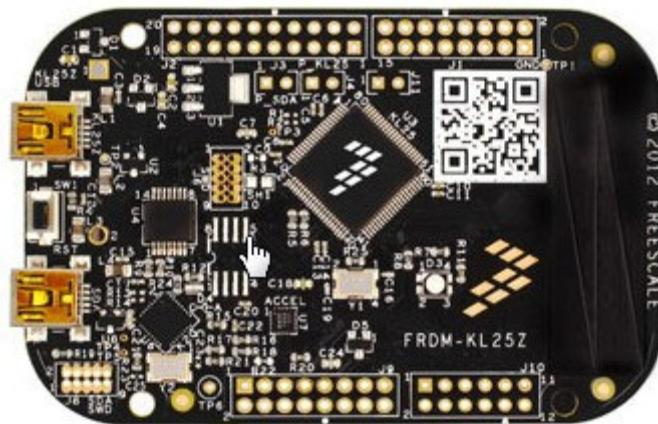

Figure 1. KL25Z Freedom Development Platform (FRDM-KL25Z)
- KL25Z Freedom Development Platform, Figure 1, based on the Kinetis KL2 family